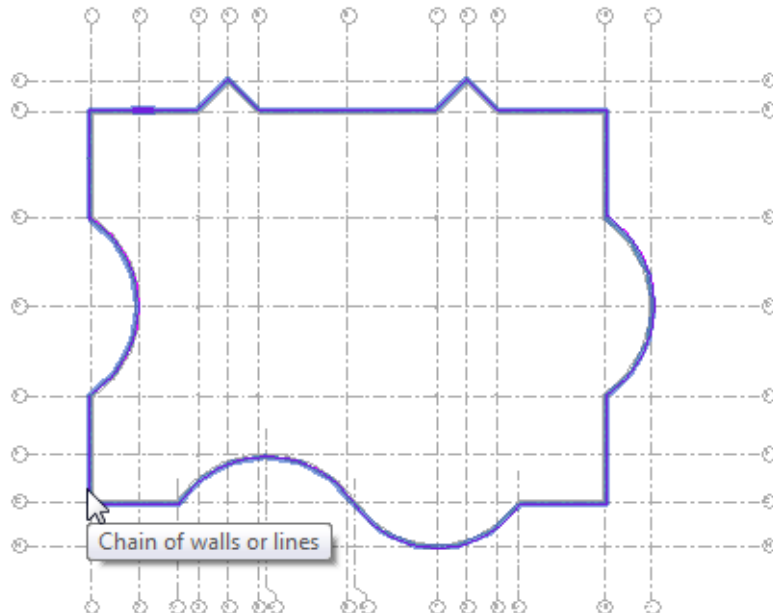

Figure 7–64
5. Select the perimeter walls, as shown in Figure 7–64. Use  (Trim) to ensure that there are no overlapping lines or gaps.